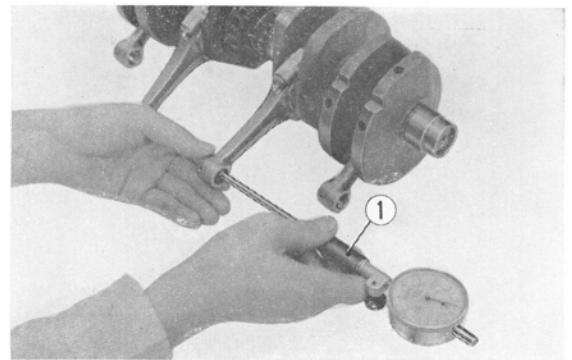
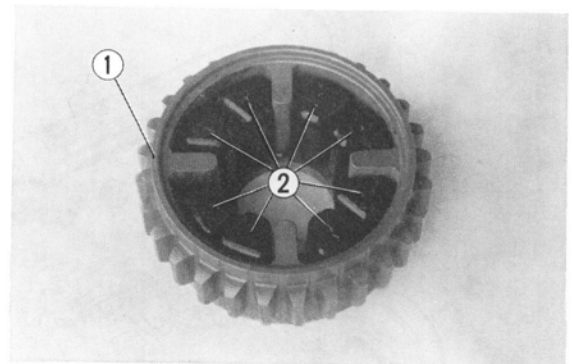

Fig. 150 ① Inside dial gauge
Fig. 165 ① Primary driven sprocket
3. Position the starting clutch and starter gear as in Fig. 150, then drive the primary shaft in from the right to left. Exercise care in the needle bearing assembly sequence shown in Fig. 165.